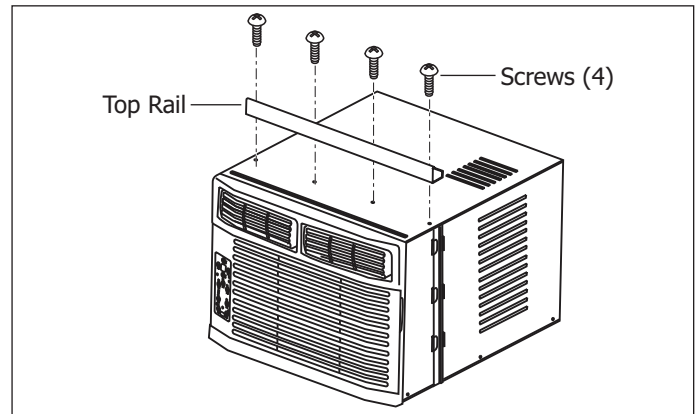

Figure 2-2.
3. Align the hole in the top rail with those in the top of the unit then secure with the 3/8" screws. (See Figure 2-2)